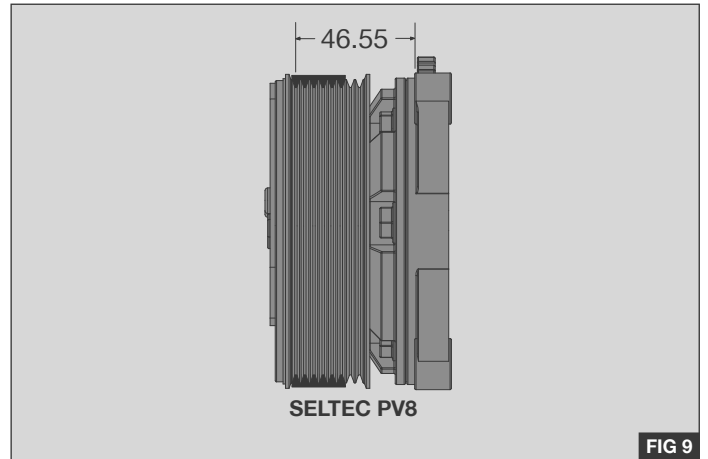

FIG 9
1. Fit the supplied replacement poly groove engine drive belt (17) to the engine in the same configuration in accordance with the original manufacturers design - Fig.9
2. Refit the original power steering stretch self tensioning drive belt (A) using the correct installation tool (Not supplied) - Fig 9
NB: Where applicable and dependent on the compressor model, align the supplied drive belt by installing in the correct clutch groove - Fig.9